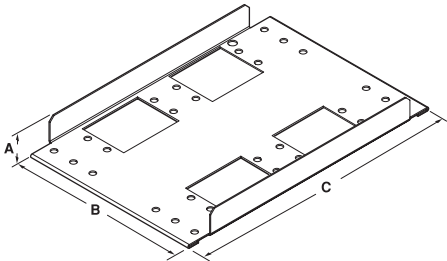

Figure A-1 — Tray dimensions
- Tray (figure A-1) A = 1.09" (2.77 cm)